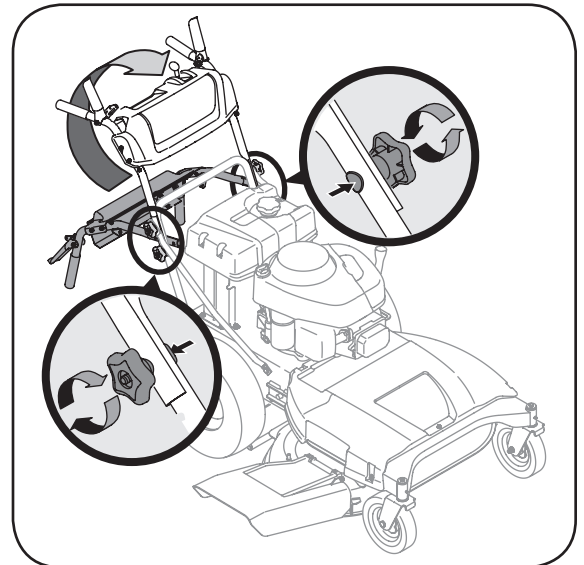

Figure 3-2: Pivot upper handle into position and secure with knobs and screws.
2. Pivot upper handle into operating position. Be careful not to crimp cables, Figure 3-2.
4. Tighten the upper and lower star knobs and carriage screws to secure the upper handle to the lower handle, Figure 3-2.